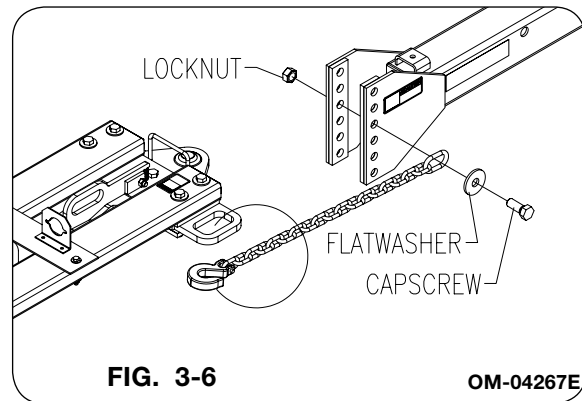

FIG. 3-6
Fig. 3-5 shown with hook-up between tractor and Rolling Harrow. Always use intermediate support when connecting the implement directly to a tractor. DO NOT use the intermediate support as the chain attaching point. Fig. 3-6 shows how the transport chain must be installed between primary tillage tool and ROLLING HARROW.
- Fig. 3-6 is a typical rear hitch representation. Actual rear hitch may vary.